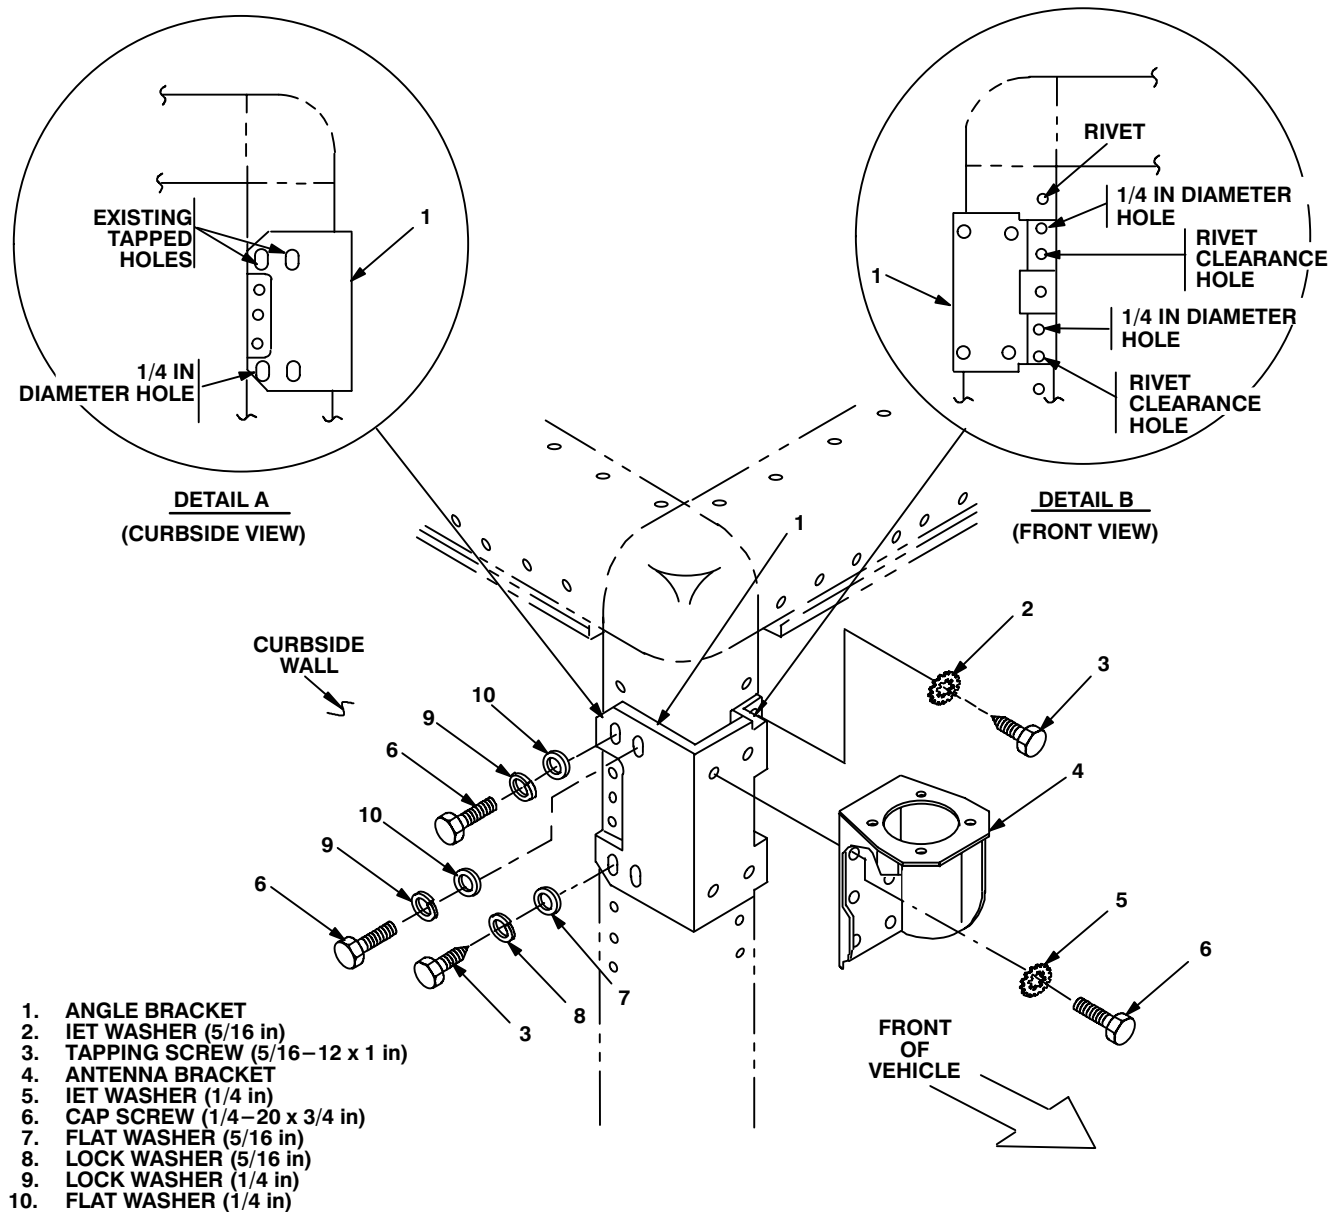

Figure 5-2 (1). Antenna Base Installation - M109 Series: Installing Brackets
| a. Two existing screws on upper curbside corner of vehicle. | Remove from existing tapped holes. See figure 5-2 (1), detail A. |
b. Angle bracket (1), antenna bracket (4) and four existing mounting holes in vehicle front wall.	Remove a 1" diameter area of paint around four existing mounting holes in vehicle front wall. Remove a 1" diameter area of paint around both sides of mounting holes in angle bracket (4) that mate with mounting holes in vehicle front wall. Clean the paint removed areas and apply a thin coat of conductive anti-seize compound.	Tools: Electric grinder or equivalent.
c. Angle bracket (1).	Position on upper curbside corner of vehicle; then align holes with two existing tapped holes on side and rivets on front. See Figure 5-2(1), Details A and B.